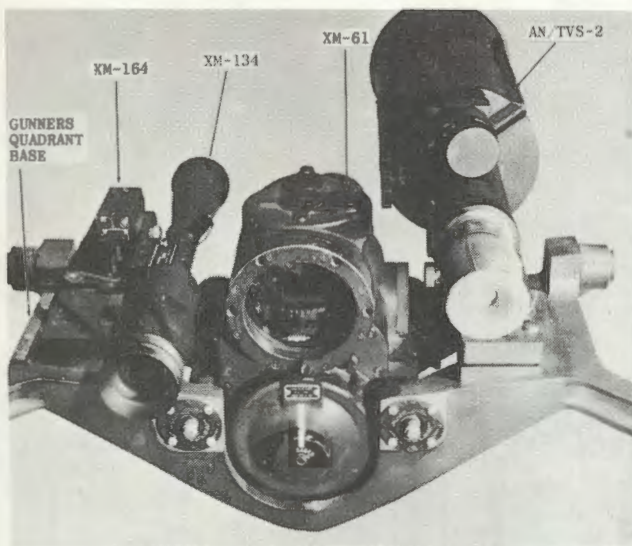

Figure 3-2. Vulcan sights.
The Vulcan self-propelled weapon system XM163 consists of a six-barrel, 20-mm, automatic cannon with a fire control system mounted on a full-tracked armored chassis (fig. 3-1). It is capable of high-speed travel on improved roads, extended travel over rough terrain, and amphibious operation on streams and small lakes. The system is equipped for on-vehicle intercommunications between crew members, and voice radio communications. The system can be transported by cargo aircraft. Major components of the system are a 20-mm automatic cannon XM168; a sighting system (fig. 3-2) consisting of lead-computing sight XM61, telescope XM134, and night vision sight AN/TVS-2; and range-only radar AN/VPS-2; all on mount XM157; and a full tracked armored chassis XM741.
a. Sight XM61. The Vulcan sight XM61 (fig. 3-2) is a gyro-stabilized, lead-computing sight designed primarily for use against aerial targets, which can also be used against moving or stationary surface targets. It is mounted in the center of the sight support assembly. The sight and sight current generator (para 3-2b(6)(b)) compute lead angle and superelevation, and the optical line of sight is automatically offset from the axis of the cannon accordingly. Electrical outputs from the sight provide position reference data to the radar antenna servos. A detailed listing of the controls and instruments is contained in TM 9-2350-300-10.
b. Telescope XM134. Telescope XM134 (fig. 3-2) is a fixed-focus, six-power sight with a 5° ($89m$) field of view. It is mounted on the left side of the sight support assembly by means of mount XM164. This sight is used during daylight hours for direct fire at ground targets. Detailed descriptions of the telescope and mount are contained in TM 9-1240-318-35 and TM 9-1240-319-35, respectively.
c. Night Vision Sight AN/TVS-2. The night vision sight AN/TVS-2 (fig. 3-2) is a battery-powered, electro-optical, seven-power sighting device. It is used for observation and aimed fire under minimum light conditions such as star-